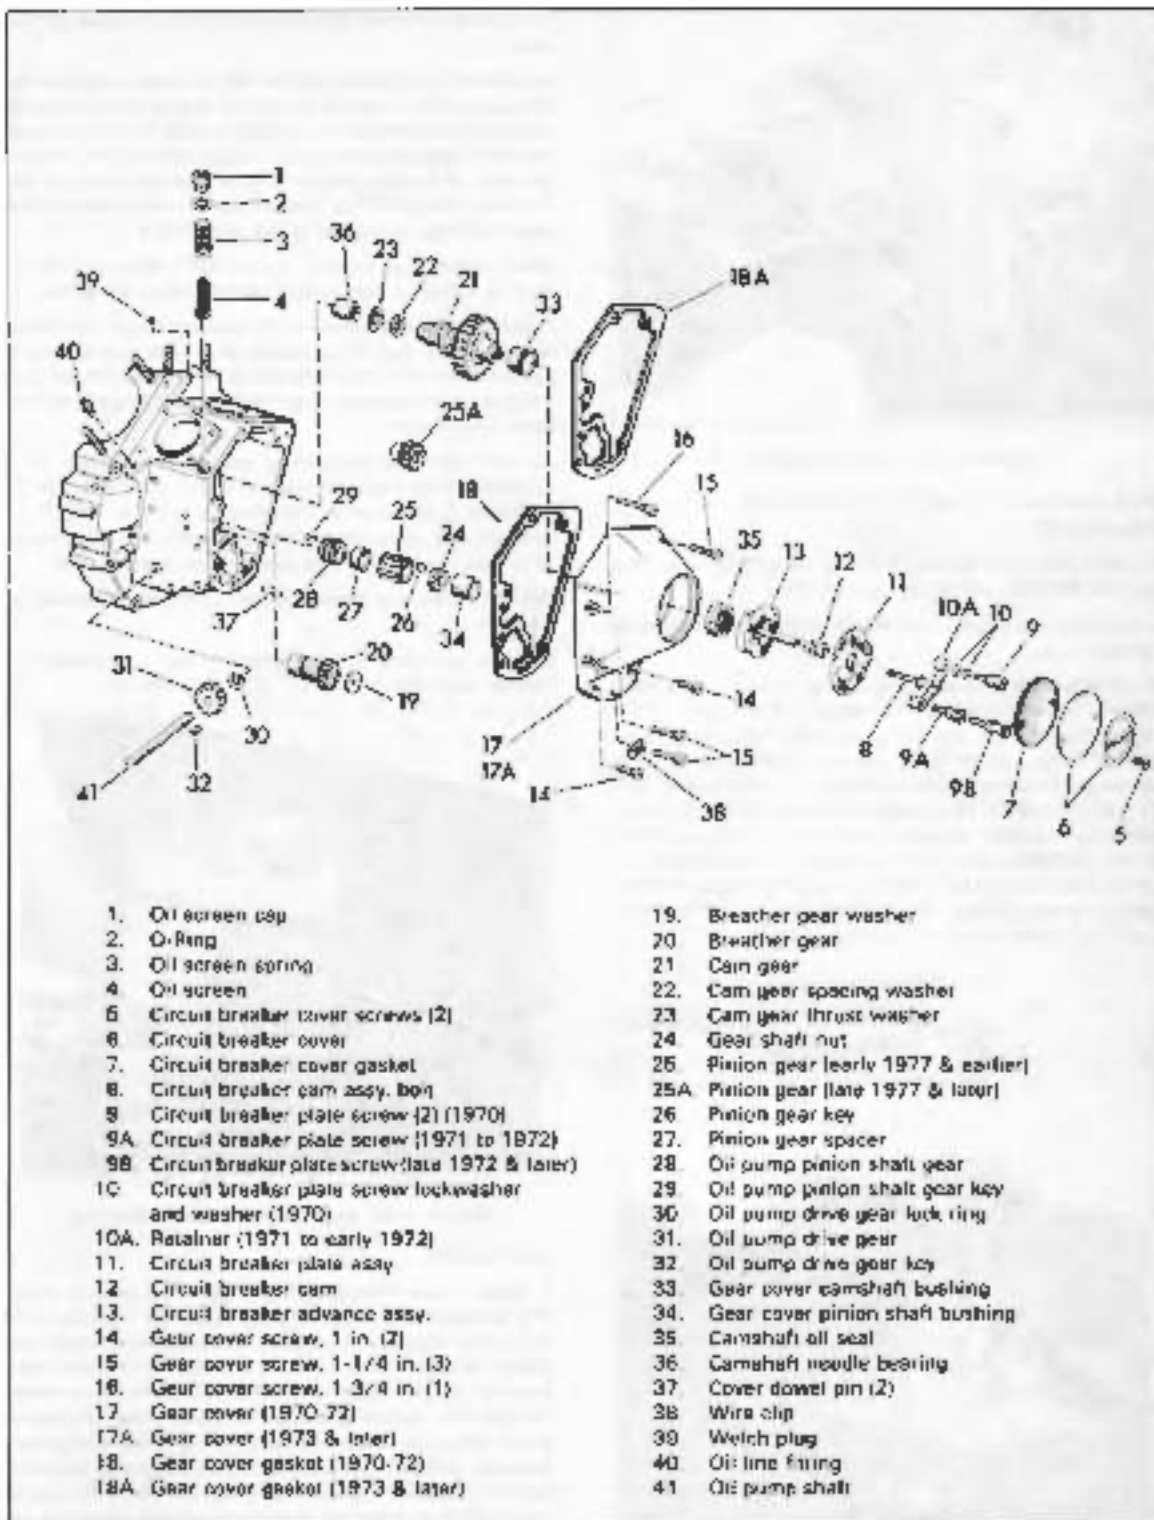
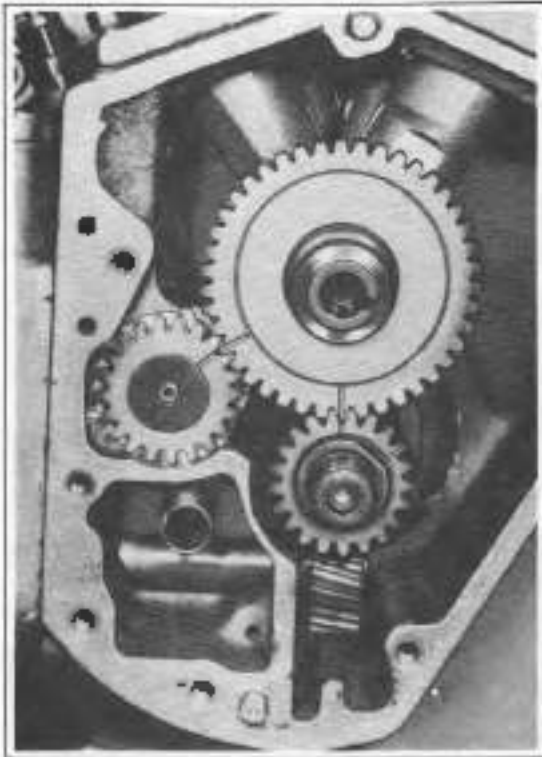

Figure 3-29. Gearcase - Exploded View
Figure 3-33. Timing Gears with Timing Marks Aligned
### DISASSEMBLING GEARCASE (Figure 3-29)
### CLEANING AND INSPECTING (Figure 3-29)
#### REPLACING GEARCASE COVER BUSHINGS (Figure 3-29)
3. Make final gearcase assembly including all parts in approximate reverse of disassembly order. Make sure that chamfer on oil pump pinion shaft gear (28) is toward the inside. Tighten pinion gear shaft nut (24, Figure 3-29) to 35-45 ft-lbs and check to see that gearshaft pinion spacer has noticeable end play. Breather, cam and pinion gears contain timing marks which must be aligned or matched as shown in Figure 3-33. Rotate gear train and note if it revolves freely. A bind indicates gears are meshed too tightly.